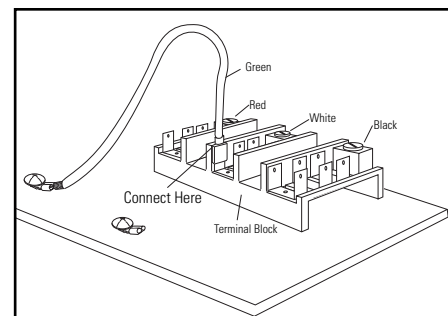

Fig. 16
- Connect green jumper to open terminal on neutral (white) portion of the terminal block (fig. 16).